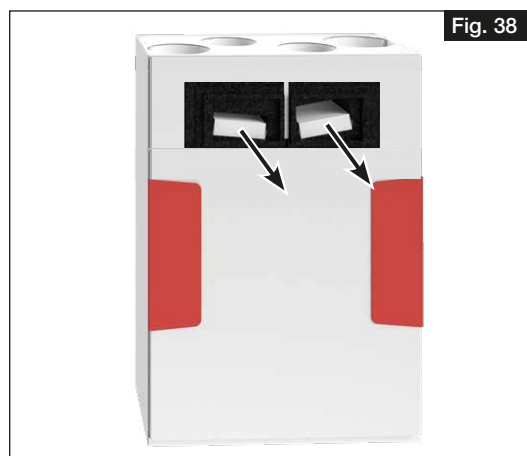

Fig. 38
2. Pull filter to the front and replace (see Fig. 38).